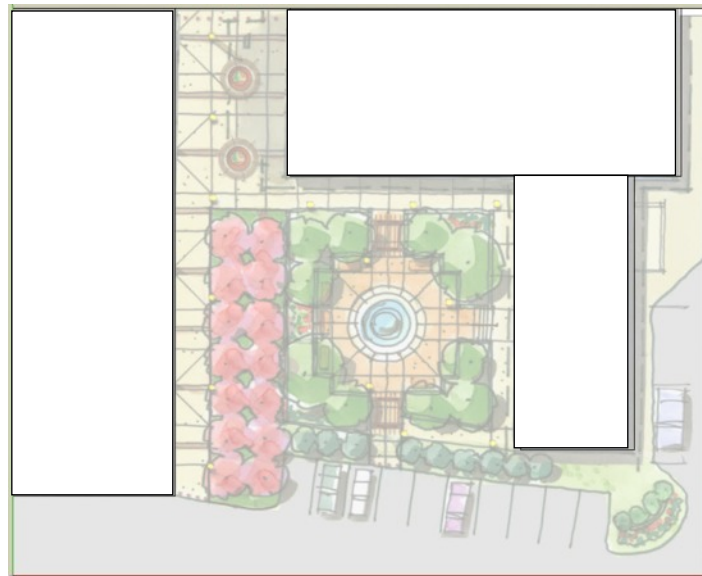

Figure 8. The buildings trace shown here accentuated for clarity
- Using the **Rectangle** command trace the outline of the buildings first as shown in Figure 8.